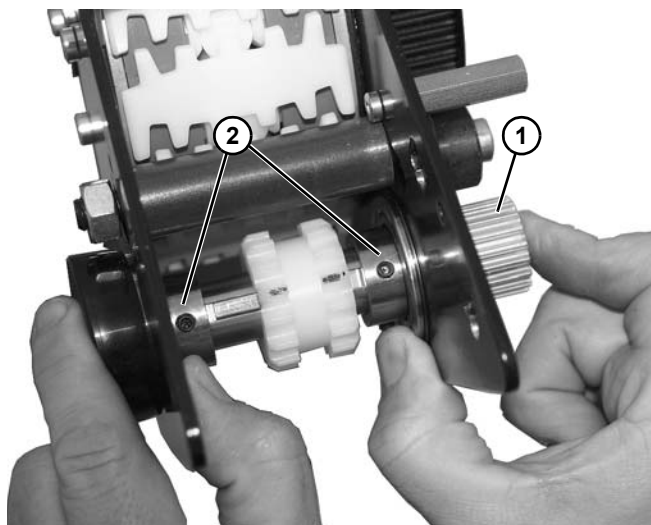

Figure 169
1. Install drive shaft (**Figure 169, item 1**) on two bearings (**Figure 169, item 2**) and press outward as shown.